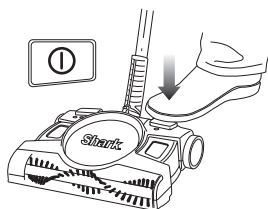

Fig. 3
- 1** Press the On/Off button to start the floor and carpet sweeper. When finished cleaning, press the On/Off button again to turn the unit off. **(fig. 3)**